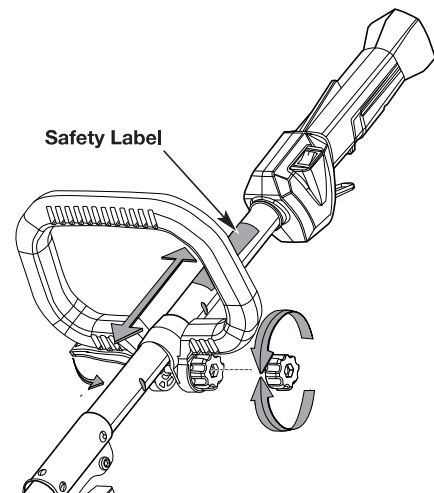

Fig. 3
1. Flip the lever down and turn the nut counterclockwise to loosen the handle (Fig. 3).